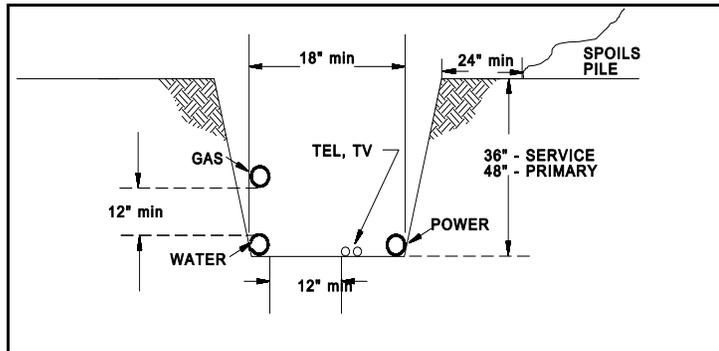

Figure 24 Trenching Details
The excavated trench must be free of sharp objects or obstructions that could damage the conduit. The trench should be dug no closer than three feet to the Utility facility which will provide power (i.e.- pole, pedestal, transformer). After the conduit is installed, the first 6 inches of cover should be earth which is free of large rocks, sharp objects, or scrap building materials. **The trench and conduit MUST be inspected by Forest Grove Light & Power prior to backfilling. A Utility personnel will apply a bright green sticker to the conduit after it has passed inspection.** The service will not be energized until adequate clearances have been provided and the trench has been backfilled and compacted. Mark the end of the conduit to allow the crews to find the conduit and connect to it. To schedule an inspection of the installed conduit and open trench, call the Operations Superintendent at (503) 992-3252. Refer to Figure 24 for additional trenching details.